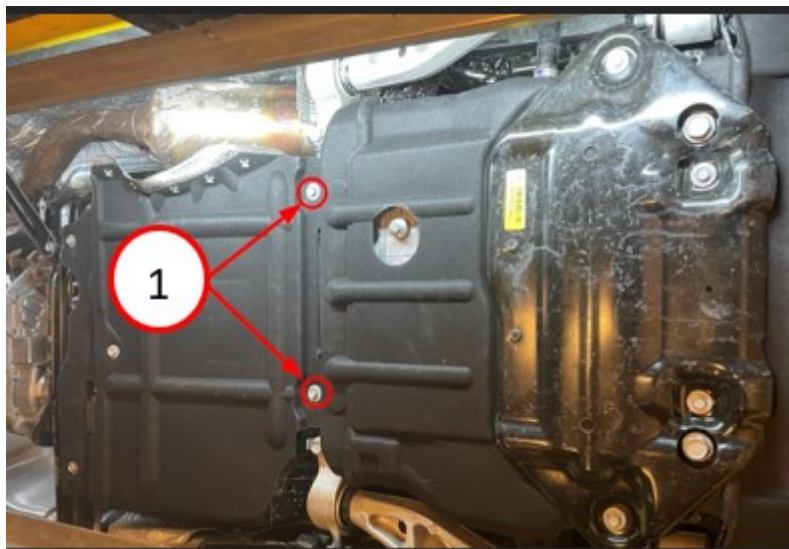

Fig. 2
3. Remove the two center 13 mm bolts securing the front close out panel to the front suspension cross member. Set the close out panel aside. (Fig. 2)